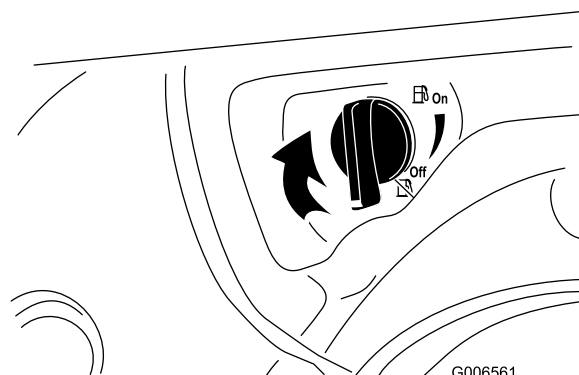

Figure 34
4. Close the fuel shutoff valve by rotating it clockwise (Figure 34).